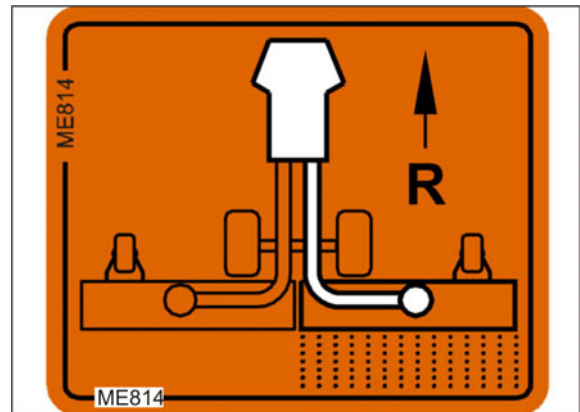

Fig. 195
4. Throw the lever to the left (Fig. 195/2) and lock it: